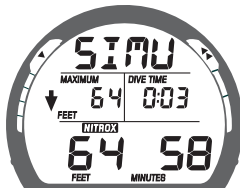
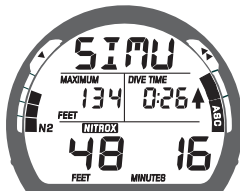

Fig. 30 - Descending
Fig. 31 - Ascending
SIMULATOR DIVE MODE screens (Fig. 30/31)
- Down Arrow icon during Descent (Fig. 30), or Up Arrow icon during Ascent (Fig. 31)